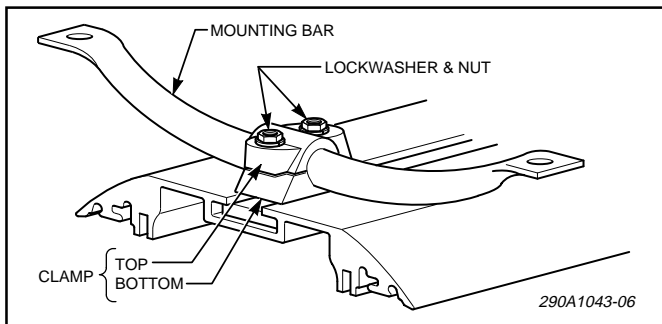

Figure 9.
2. Place the bottom half of the mounting bracket clamp over the two mounting plate assembly studs (see figure 9). Place the mounting bar into position on the bottom half of the mounting clamp.
3. Place the top half of the mounting bracket clamp over the studs. Place a 3/8-inch split lockwasher and 3/8-16 hex nut over each stud as shown in figure 9.